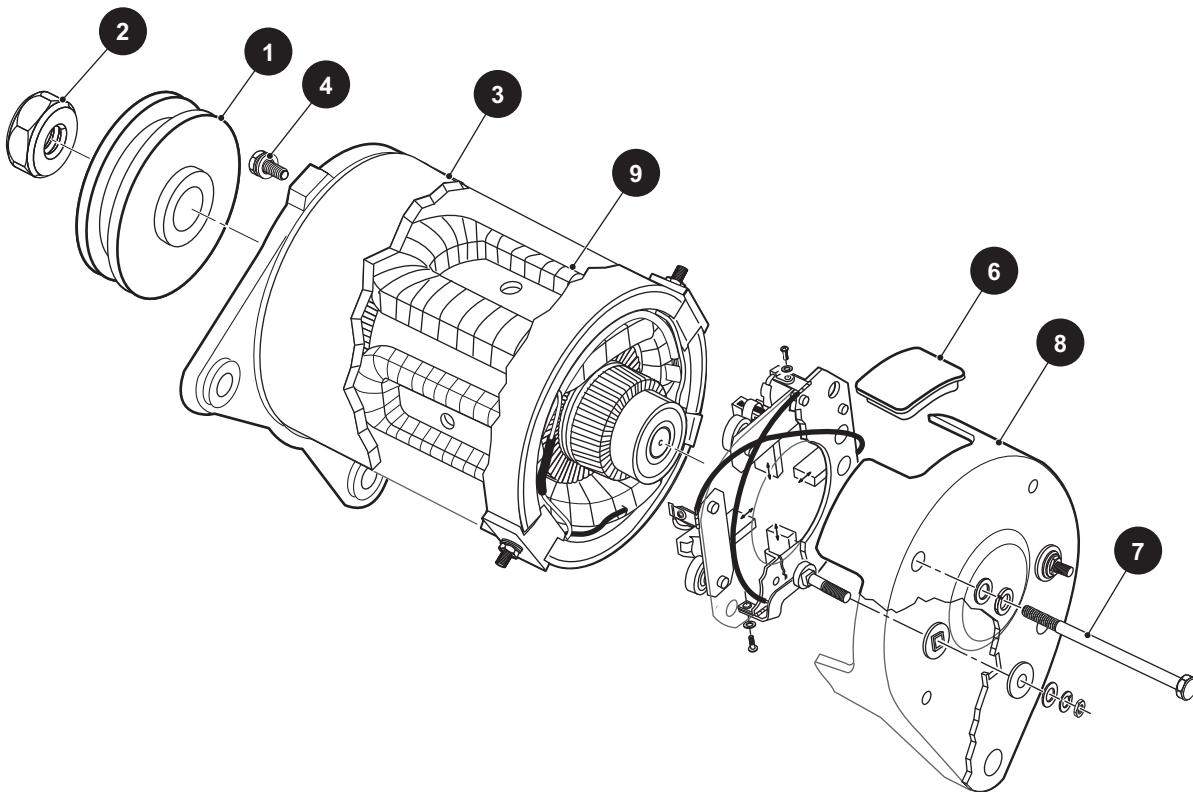
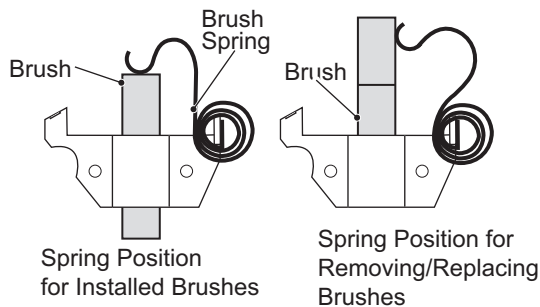

Fig. 5 Starter/Generator
Fig. 6 Starter/Generator Brush Removal
Hold the pulley (1) and remove the pulley nut (2). Remove the pulley, screws (4) and front cover (3) (Ref. Fig. 5).
Remove the brush covers (6) by prying out with a screwdriver. Pull up on the brush springs and move to the side of brushes, slide the brushes out approximately 1/4" (6 mm) (Ref. Fig. 5). Remove the through bolts (7) and the rear cover (8). Remove the frame and field coils (9). Remove the 5mm screws from the brush holder and 6 mm nuts from A1 and A2 terminals. Remove the brush holder. If the bearing needs to be replaced, use an automotive style two jaw puller to remove the bearing from armature (Ref. Fig. 6).
For vehicles equipped with halogen headlights mounted in the cowl, locate bulb socket (1) on backside of light and turn bulb socket a quarter turn counterclockwise to unlock and pull out bulb and socket (Ref. Fig. 5).